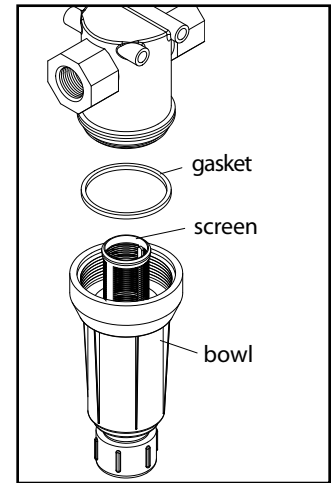

Figure 3: In-line filter
4. If the sprayer is equipped with individual boom line filters, the screens of the filters should be taken out and rinsed. Note: Be careful not to lose the gasket in the filter bowl as the filter will leak without this gasket (Figure 3).